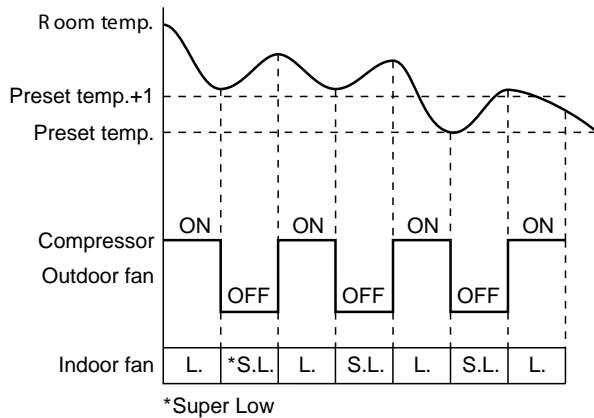

Fig. 7-2-5
- (2) The microprocessor turns the compressor on and off at the regular intervals (4 to 6 minutes). While the compressor is turning off, the indoor fan motor operates in the SUPER LOW position. The pattern of operation depending on the relation between room temperature and preset temperatures is shown in Fig. 7-2-5.